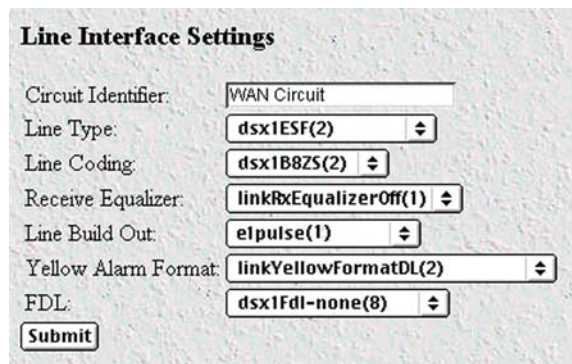

Figure 33. WAN Circuit Configuration window, Line Interface Settings section
2. Link: 1 corresponds to Line 1 on the RAS. This is the primary link for dial-in callers. Under Link 1, Click on Configuration then Modify. The Line Interface Settings section of the WAN Circuit Configuration window appears (see figure 33).
1. Click on the Line Type pop-up menu (see figure 33 on page 49) and choose from the following options:
- For an E1/PRI line your options will be either dsx1E1(4) or dsx1E1-CRC(5)
- For an E1/R2 line your options will be either dsx1E1-MF(6) or dsx1E1-CRC-MF(7)
2. Click on the Line Coding pop-up menu (see figure 33 on page 49) and choose either dsx1AMI(5) or dsxHDB3(3). Most installations will use HDB3.
3. Click on the Line Build Out pop-up menu (see figure 33 on page 49) and select e1pulse(1).
4. Click on Yellow Alarm Format pop-up menu (see figure 33 on page 49) and choose from the following options:
2. Link: 1 corresponds to Line 1 on the RAS. This is the primary link for dial-in callers. Under Link 1, Click on Configuration then Modify. The Line Interface Settings section of the WAN Circuit Configuration window appears (see figure 33 on page 49).
2. Click on the Line Coding pop-up menu (see figure 33 on page 49). The most common options are: dsx1B8ZS and dsx1AMI. For ISDN PRI service, set the line coding to dsx1B8ZS.
3. Click on the Line Build Out pop-up menu (see figure 33 on page 49) and select t1pulse0dB(1).